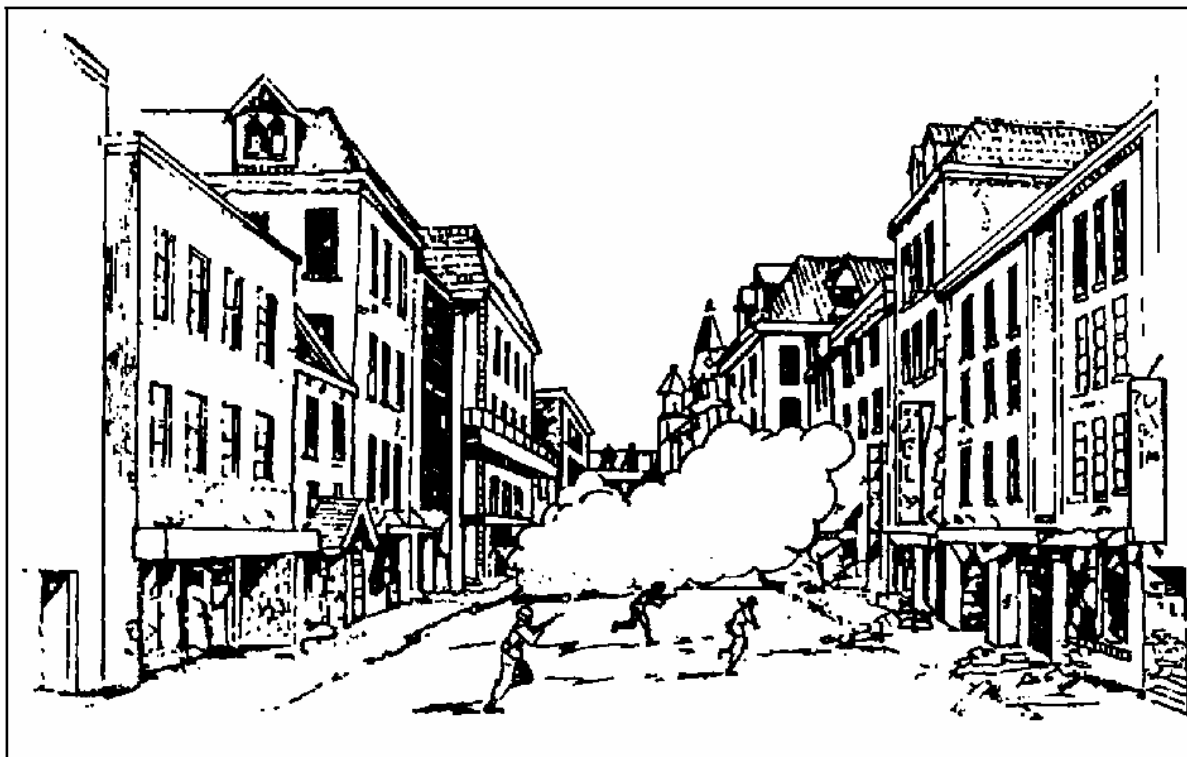

Figure 3
- (1) The group must first position themselves so they are prepared to move to their next position.
- (2) The group, on a planned signal, moves across the open area at the same time to the next position. When moving, they should stay about 5 meters apart (Figure 3).